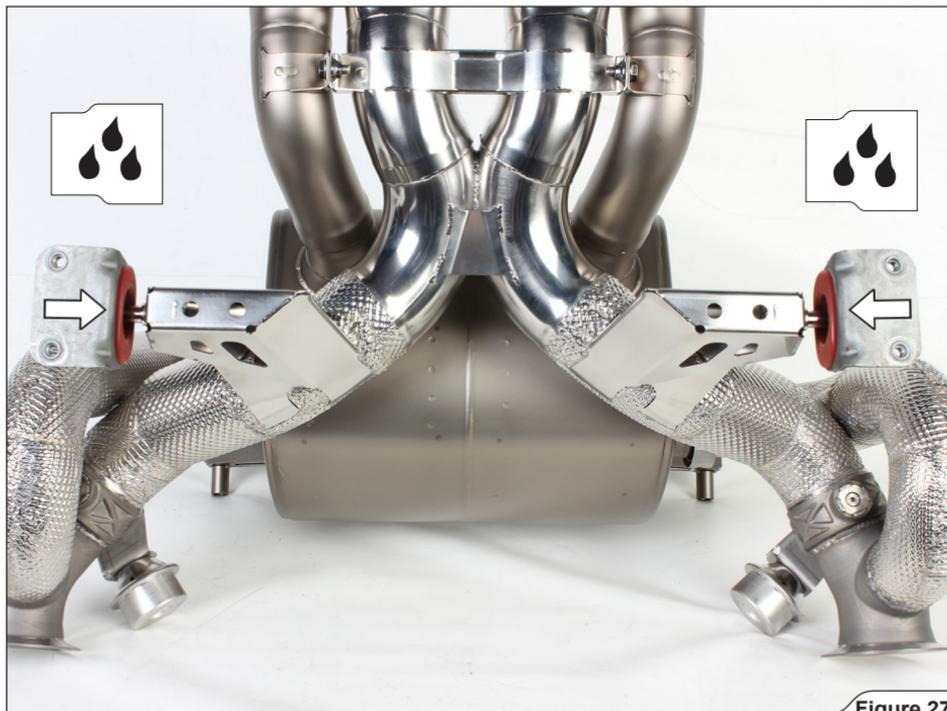

Figure 27
2. Install the stock rubber brackets onto the Akrapovič muffler, as shown (Figure 27).